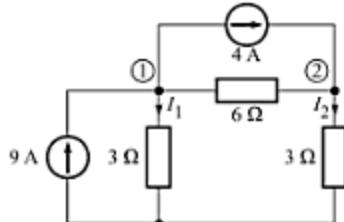

Fig. 3.79
20. By applying nodal analysis to the circuit of Fig. 3.79, determine the currents I_1 and I_2 .